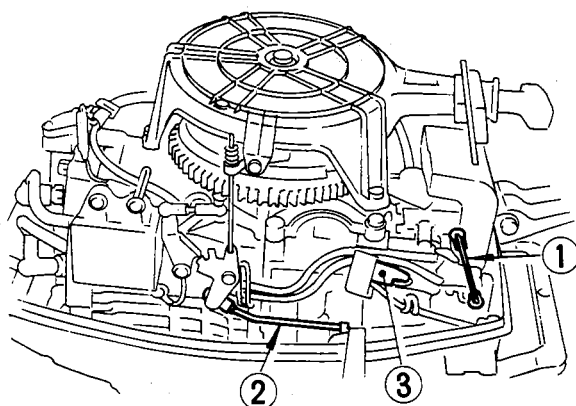

Fig. 19 The right (starboard) side of power unit
- 3) Take off the connection of the stop switch and C.D. unit. (Fig. 19)